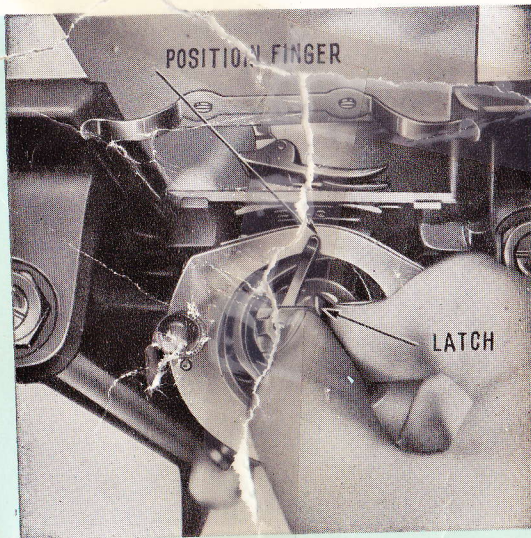

Fig. 8
4. Hold the bobbin case latch (Fig. 8) between the thumb and forefinger of left hand, with its position finger opposite the notch at the top of the shuttle race and place it on the center stud of the shuttle (Fig. 8).
shuttle (Fig. 8).